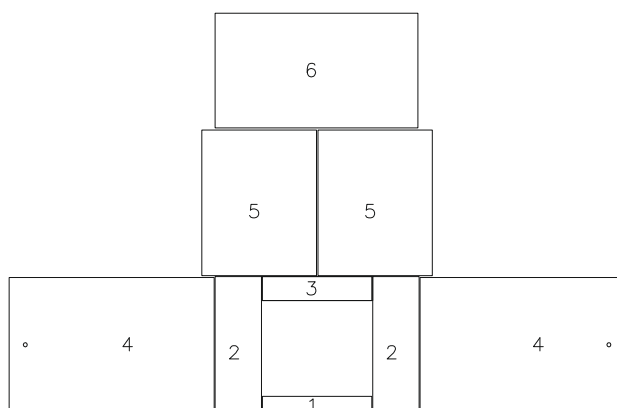

Abb. 6.
1. Body; 2. Fire door; 3. Safety bar; 4. Niche; 5. Primary air regulator; 6. Decorative profile; 7. Handle; 8. Secondary air regulator; 9. Top plate; 10. Screen; 11. Brick set (fig.6); 12. Grate; 13. Ashtray; 14. Decorative screen.